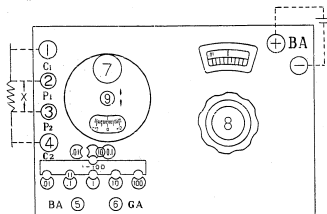

FIG 2
A zero adjusting cap (7 in fig. 2) is mounted on the upper part of the galvanometer. Care should be taken not to turn violently to avoid damage of the adjuster. A button (9 in fig. 2) is provided to lock the pointer of the galvanometer. To lock the pointer, push the button forward, to unlock, push backward.
Two plugs are used to change the ratio of the bridge (10 and 11 in fig. 2). Plugs should be pressed firmly to ensure minimum contact resistance.
Key "G" (6 in fig. 2) may be locked by pressing down and turn clockwise.
Key "B" (5 in fig. 2) cannot be locked.
- (1) Resistance lower than one ohm must have four terminals, connect as shown in fig. 2. Posts No. 1 and No. 4 are current terminals, and posts No. 2 and No. 3 are potential terminals. For resistance higher than one ohm, posts No. 1 No. 2, and No. 3 No. 4 may be tied up with a short bus wire respectively, and resistance to be measured is connected to posts No. 2 and No. 3.
- (2) Connect battery to posts "B+" and "B-". Use three 1.5v dry cell (connect in parallel), or one 2v 60Ah storage battery. When measuring low resistance, better use 4v storage battery. Key "B" (5) should not be pressed too long to avoid excessive power consumption.
- (3) Press down key 6 to close the galvanometer circuit. To lock the key, press down and turn clockwise.
- (4) Release the galvanometer lock 9, and turn the zero adjuster 7 until the pointer indicates in the zero position. Set the plugs in the corresponding holes as follows: